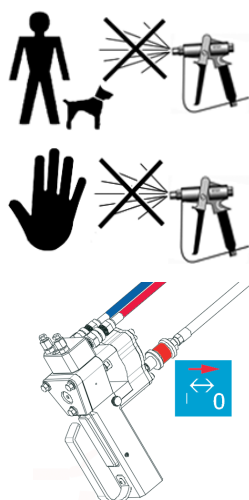

Figure 2.1
- Lock the spray gun(s) each time work is interrupted, even for short breaks, and check that it is properly secured, (Figure 2.1).